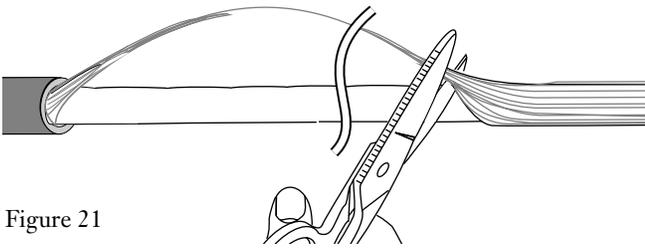

Figure 21
7.2 Cut the yarn at the 15 cm point with a pair of scissors (Figure 21). Fold the 15 cm length of yarn back out of the way.